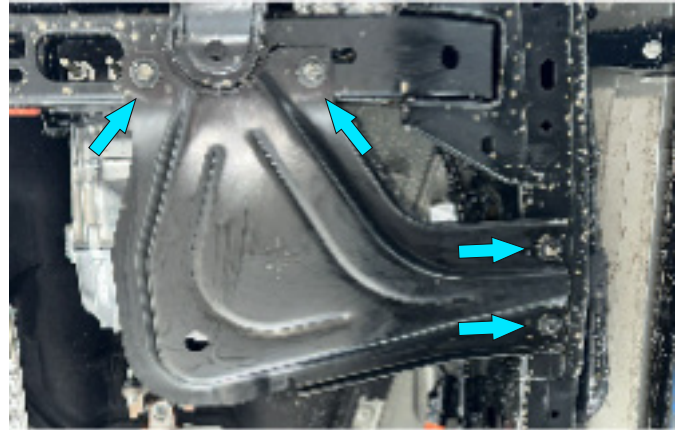

Fig. 2
2. Remove bolts from the factory transfer case skid plate and set aside. (fig.2).